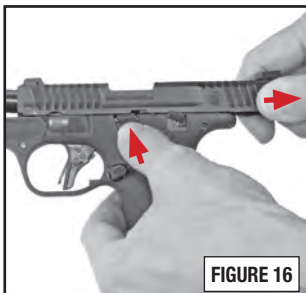

FIGURE 16
- Lock the slide in the open position by allowing the slide to move slightly forward from the rearmost position while pressing upward on the slide stop (FIGURE 16).